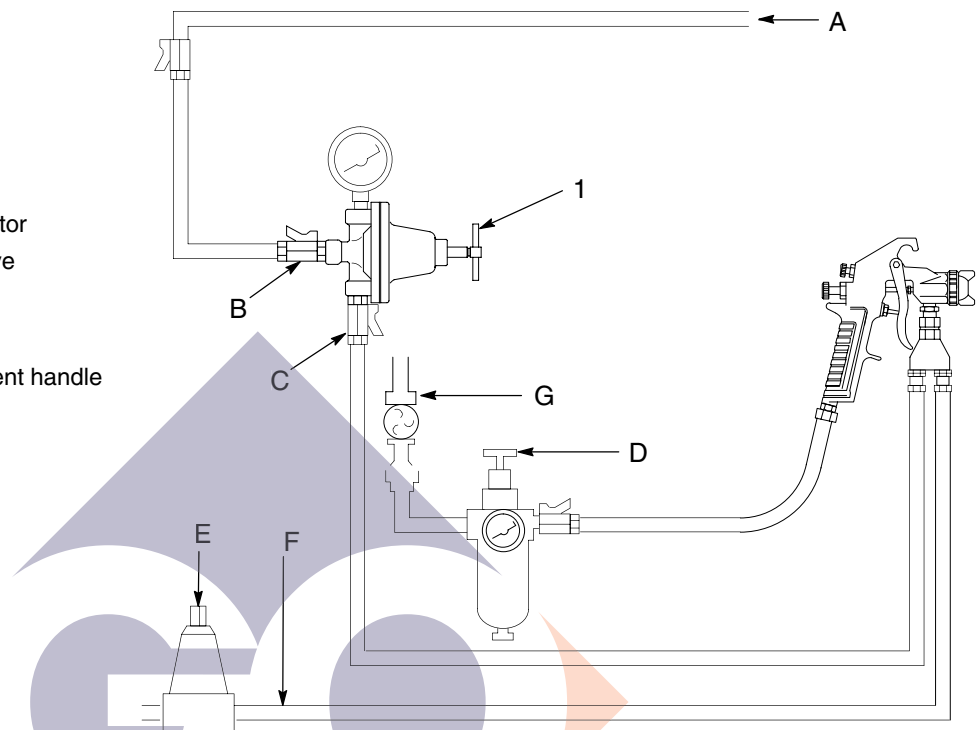

Fig. 1
1. See Figs. 1 and 2 on page 5. Install one regulator for each spray gun. Mount the regulator in a vertical position for the best flow and minimum pigment settling. The gauge, if used, must be mounted vertically. If the regulator is mounted horizontally, an elbow must be used so the gauge will be vertical.
2. Close the fluid regulator's inlet ball valve (B). Refer to Fig.1, page 5.
4. In spring-operated regulators, turn the adjustment handle (1) counterclockwise until the spring force is relieved.
NOTE: Reference numbers and letters in parentheses in the text refer to Figs. 1 through 5 and the Parts Drawings.
2. Start the pump and open the fluid regulator's inlet ball valve (B) to admit fluid to the regulator. See Fig. 1.
- a. Shut off the pump and relieve fluid pressure in the system by opening the back pressure valve (E) or other bypass valve. See Fig. 1.
1. Shut off the pump. Close the ball valve at the regulator's fluid inlet. Refer to Fig. 1, page 5.